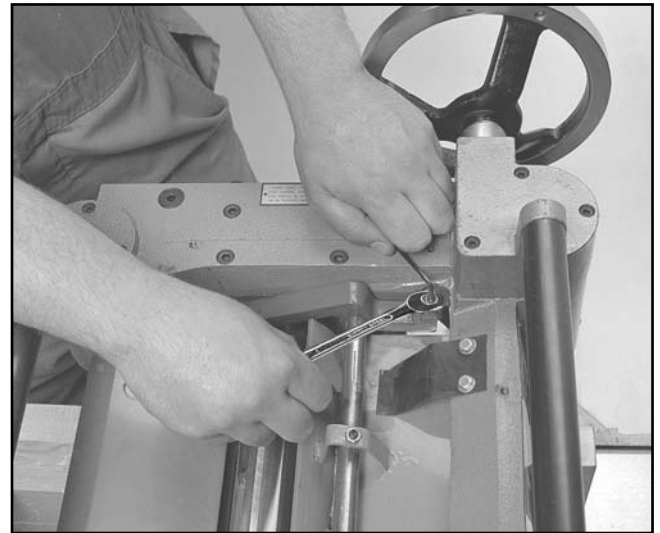

Figure 21. Pressure bar adjustment.
2. Remove top cover. Note setscrew and lock nut pictured in **Figure 21.** Loosen the lock nuts.